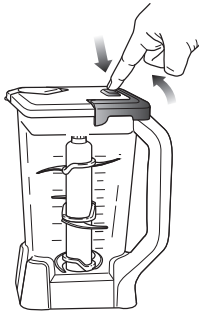

Fig. 10
- 14 For thicker consistencies, remove the lid and blade attachment carefully (by its shaft), then empty contents from the container. To remove the lid, press the release button on the lid and pull the lid handle up to a 90° angle and lift the lid off the blender pitcher. (Fig. 10)